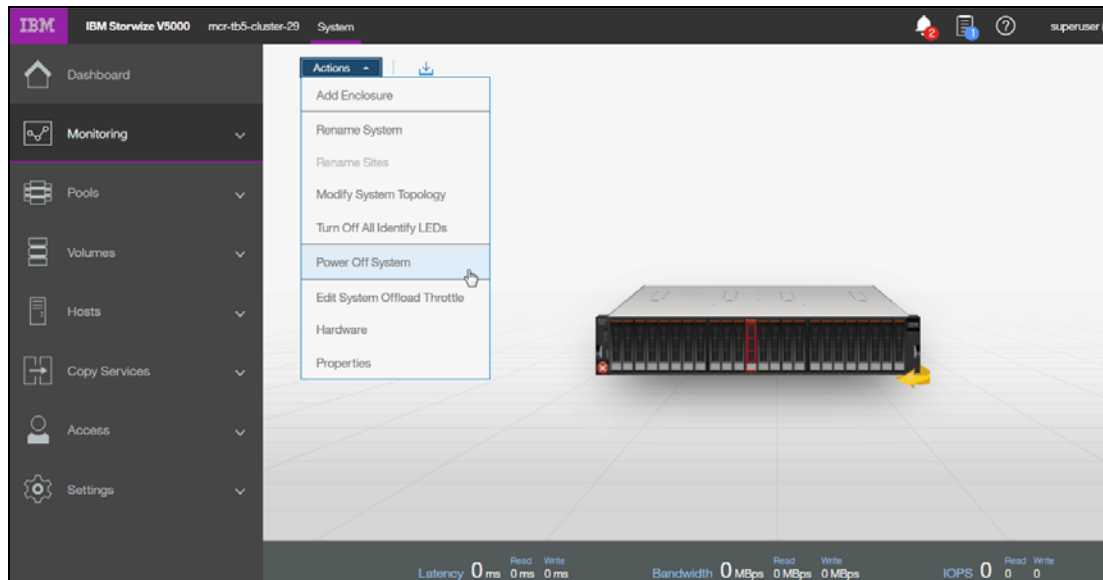

Figure 12-115 Powering off the system
1. Browse to **Monitoring** → **System**, click **Actions** → **Power Off System**, as shown in Figure 12-115 on page 702.